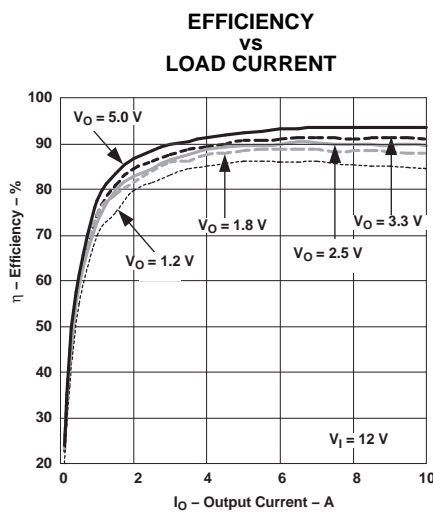
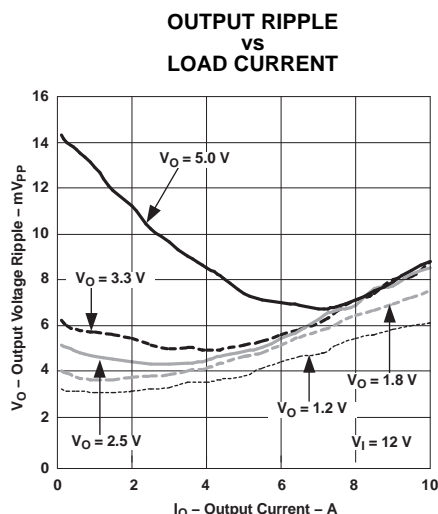
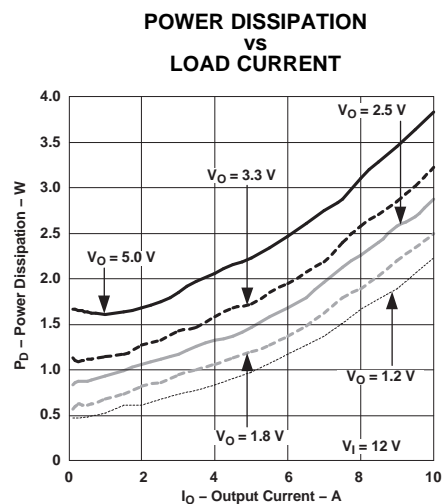

Figure 1.
Figure 2.
Figure 3.
- (1) The electrical characteristic data has been developed from actual products tested at 25°C. This data is considered typical for the converter. Applies to Figure 1, Figure 2, and Figure 3.